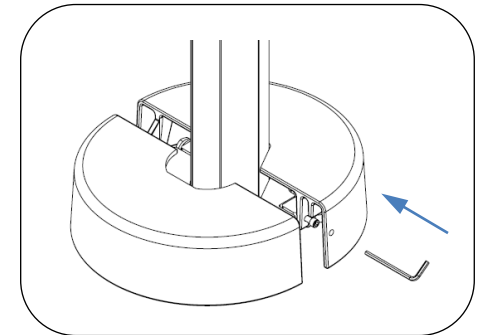

Fig. 4 – Install cover plate
8. Install cover plate, see Fig. 4.